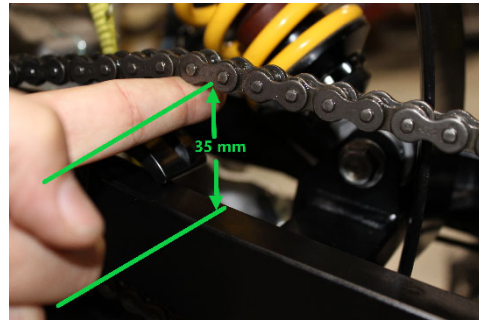

Figure 2
2. A properly adjusted chain will have 35mm (1.368") free movement behind the chain block with no load on the bike. (figure 2)
4. If the chain requires adjusting, loosen the axle with a 19 mm wrench and tighten the chain by rotating the adjuster bolts clockwise (CW) or loosen the chain by rotating the adjuster bolts (CCW).